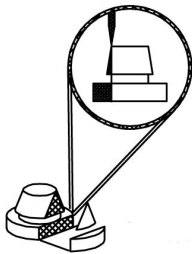

Figure 16:
8. Trim plug button (Figure 16).